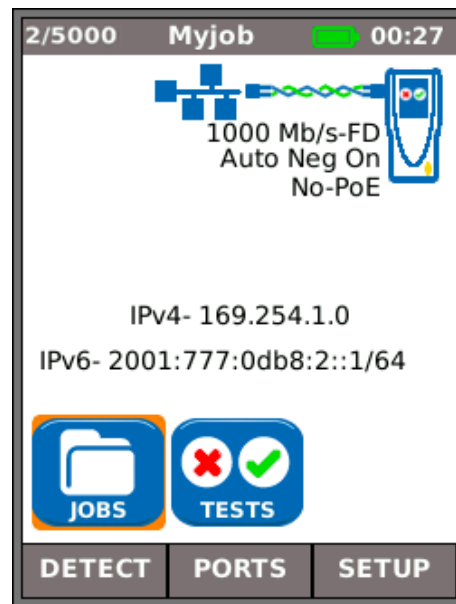

Fig 9
(2) When the Near-End Unit is connected to an active network, using copper or fiber cable, press the soft key DETECT (F1) to display all options available (Fig 9). IP tests can be run. For a full description of these options see - *Tests menu description - Ethernet mode, page 26*.